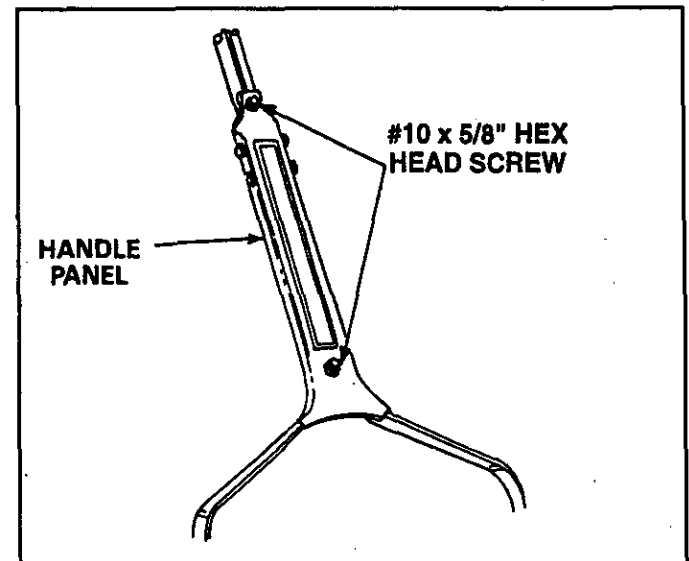

FIGURE 4
- Place the handle panel in position over the handles. Fasten the bottom of the panel to the spacer using a #10 x 5/8" hex head screw. Do not tighten yet. See figure 4.
- Secure the top of the panel to the upper handles using a #10 x 5/8" hex head screw assembled down into the notch between the two upper handles. Tighten both screws at this time. See figure 4.